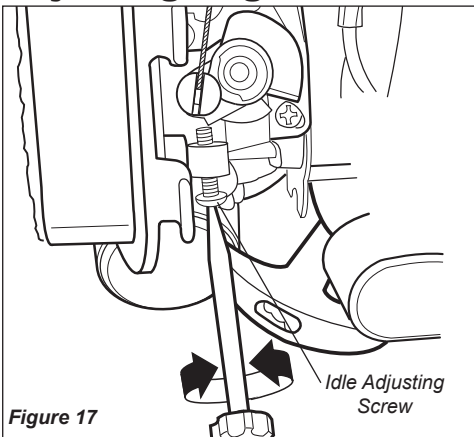

Figure 17
2. If the attachment rotates when the engine is at idle, reduce the idle speed by turning the idle adjustment screw counter-clockwise. See Figure 17.